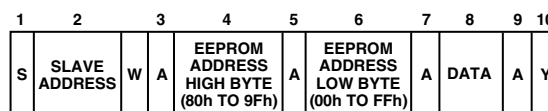

Figure 4e. Single Byte Write To EEPROM
4. Write a single byte of data to EEPROM. In this case, the command byte is the high byte of the EEPROM address from 80h to 9Fh. The first data byte is the low byte of the EEPROM address and the second data byte is the actual data. Bit 1 of EEPROM Register 3 must be set. This is illustrated in Figure 4e.